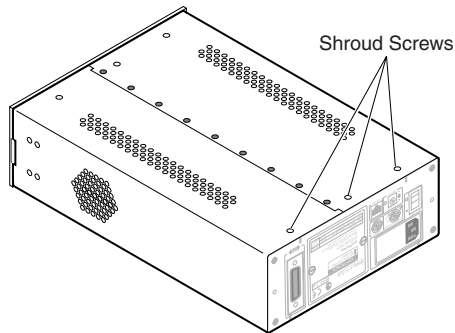

Figure 3-6. Bottom Rear Shroud Screws
- 4 Turn the Counter upside-down, and remove the three 4-40 x 3/16-inch countersunk shroud screws on the bottom of the Counter near the back edge of the shroud (see Figure 3-6).